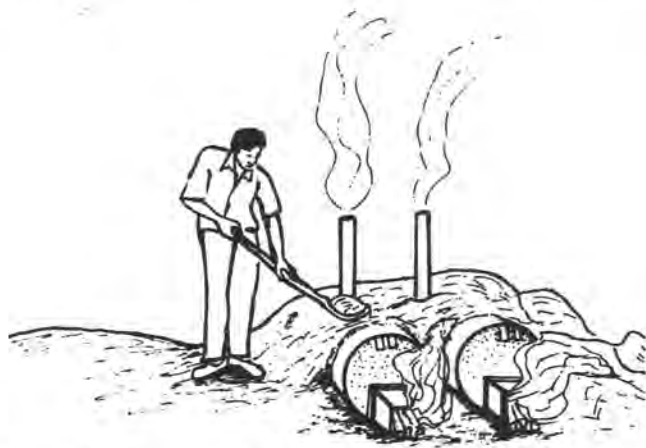

Figure 4.5: The drum kilns are covered with soil
- Close the door of the firing section. Cover the kiln with soil to prevent heat loss during carbonisation (Figure 4.5). The entire drum is covered with soil.